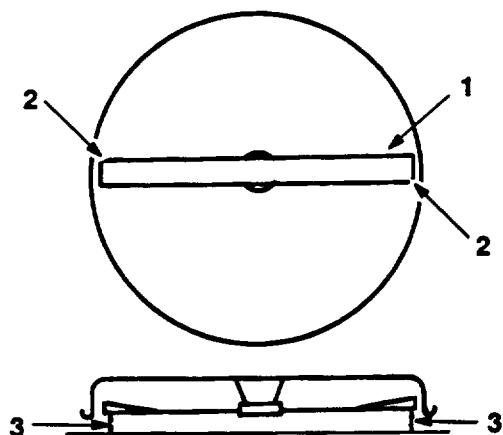

Figure 46
4. Carefully rotate blade(s) side to side (Fig. 46). Measure between the outside cutting edges and the flat surface (Fig. 46). If both measurements are not within $3/16"$ (4.762mm), an adjustment is required; refer to steps 5 and 6.